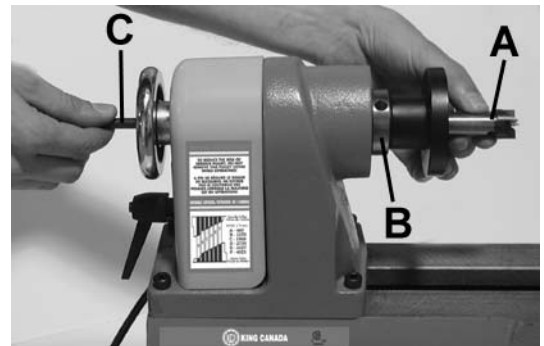

FIGURE 7
The spur center (A) Fig.7 supplied with your wood lathe is designed to be fitted into the tapered headstock spindle (B). The spur center can be fitted by hand but first make sure the spur center shank and spindle hole are perfectly clean. It is recommended to use a solvent and a clean cloth to clean the shank and spindle hole.